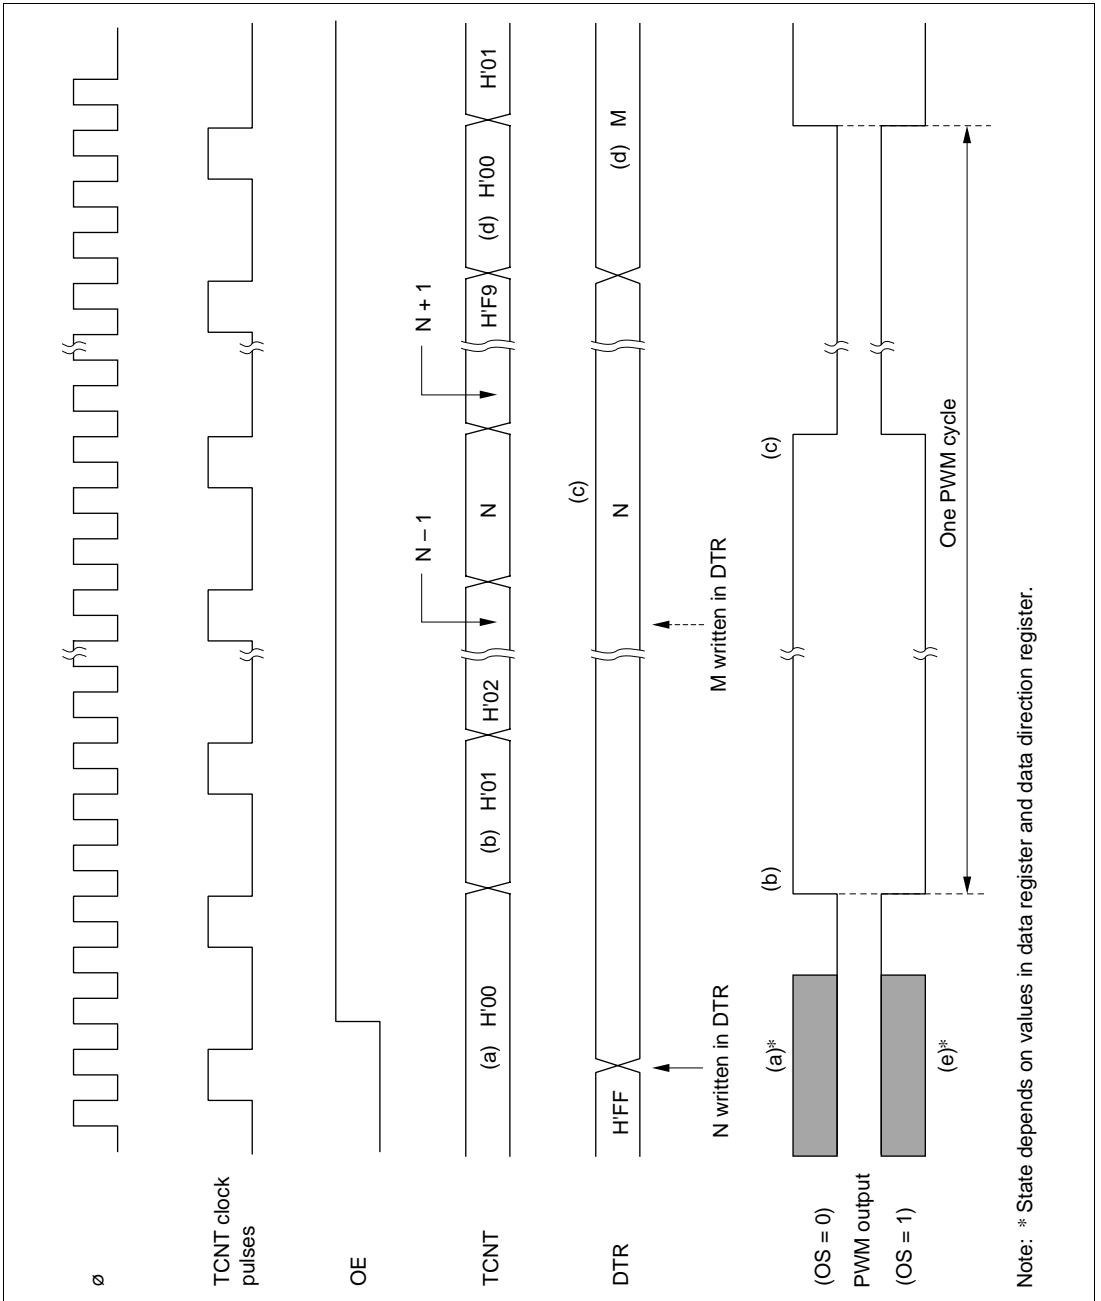

Figure 10.3 PWM Timing
Figure 10.3 is a timing chart of the PWM operation.
1. When (OE = 0)—(a) in Figure 10.3
The timer count is held at H'00 and PWM output is inhibited. [Pin 4₆ (for PW0) or pin 4₇ (for PW1) is used for port 4 input/output, and its state depends on the corresponding port 4 data register and data direction register.] Any value (such as N in figure 10.3) written in the DTR becomes valid immediately.
- a. The timer counter begins incrementing. The PWM output goes high when TCNT changes from H'00 to H'01, unless DTR = H'00. [(b) in figure 10.3]
- b. When the count passes the DTR value, the PWM output goes low. [(c) in figure 10.3]
- c. If the DTR value is changed (by writing the data “M” in figure 10.3), the new value becomes valid after the timer count changes from H'F9 to H'00. [(d) in figure 10.3]
Inverted Output (OS = 1)—(e) in Figure 10.3: The operation is the same except that high and low are reversed in the PWM output. [(e) in figure 10.3]